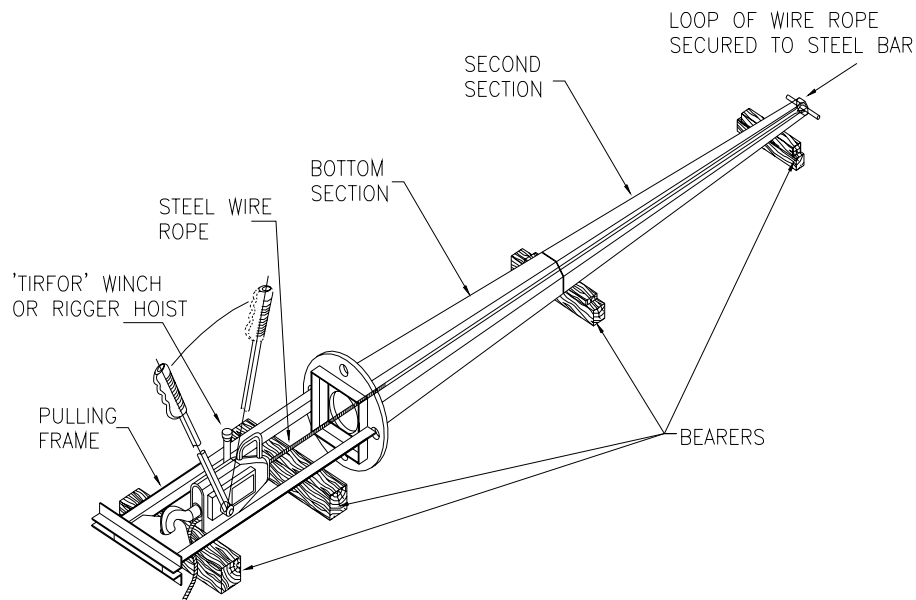

Figure 4.
- I) Assemble the tirror and the frame at the base of the bottom section. Feed the cable through the centre looping it at the top end of the adjoining section around a rigid bar bearing on the section (**Figure 4**). Ensure that the bearing of the bar will not damage (buckle locally) the top of the section during winching (e.g. use timber packers). Also use timber packers at the bottom if there is no flange base (e.g. ground planted column).